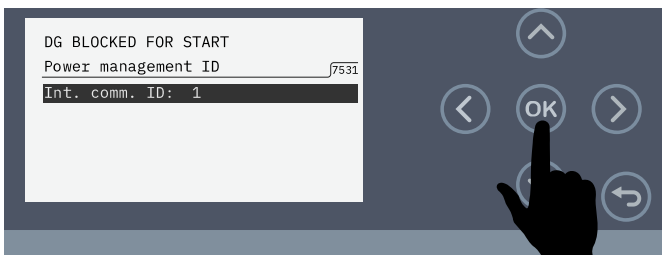

Figure 95. Select Int. Comm. ID
5. Make sure **Int. Comm. ID** is highlighted (Figure 95), then press the OK button.